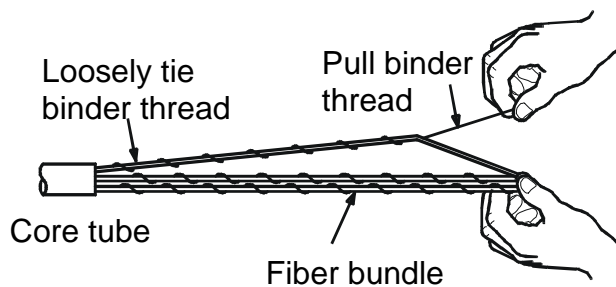

Figure 16 – Separate the LightPack bundles by carefully pulling the binders.
1. The individual fibers in the LightPack core are bundled together with two helically-applied binder threads. To separate the fiber bundles, hold all of the fibers together and carefully pull one binder thread as shown in Figure 16. The binder will tighten around one bundle of fibers separating them from the remaining fibers.